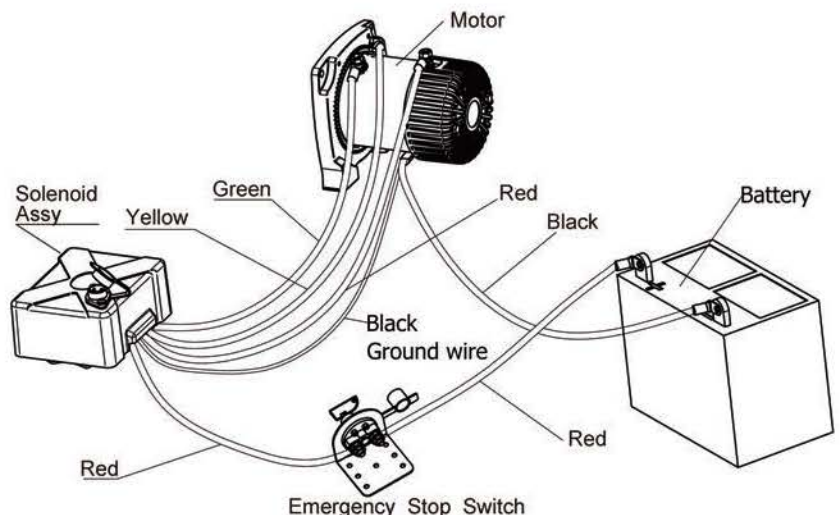

Fig 3
6. Electric Cable Connecting (refer to Fig. 3)
1. Install and connect the Solenoid Assembly to the winch and battery properly. See Fig.3.
1. Install and connect the Solenoid Assembly to the winch and battery properly. See Fig.3 on page 6.